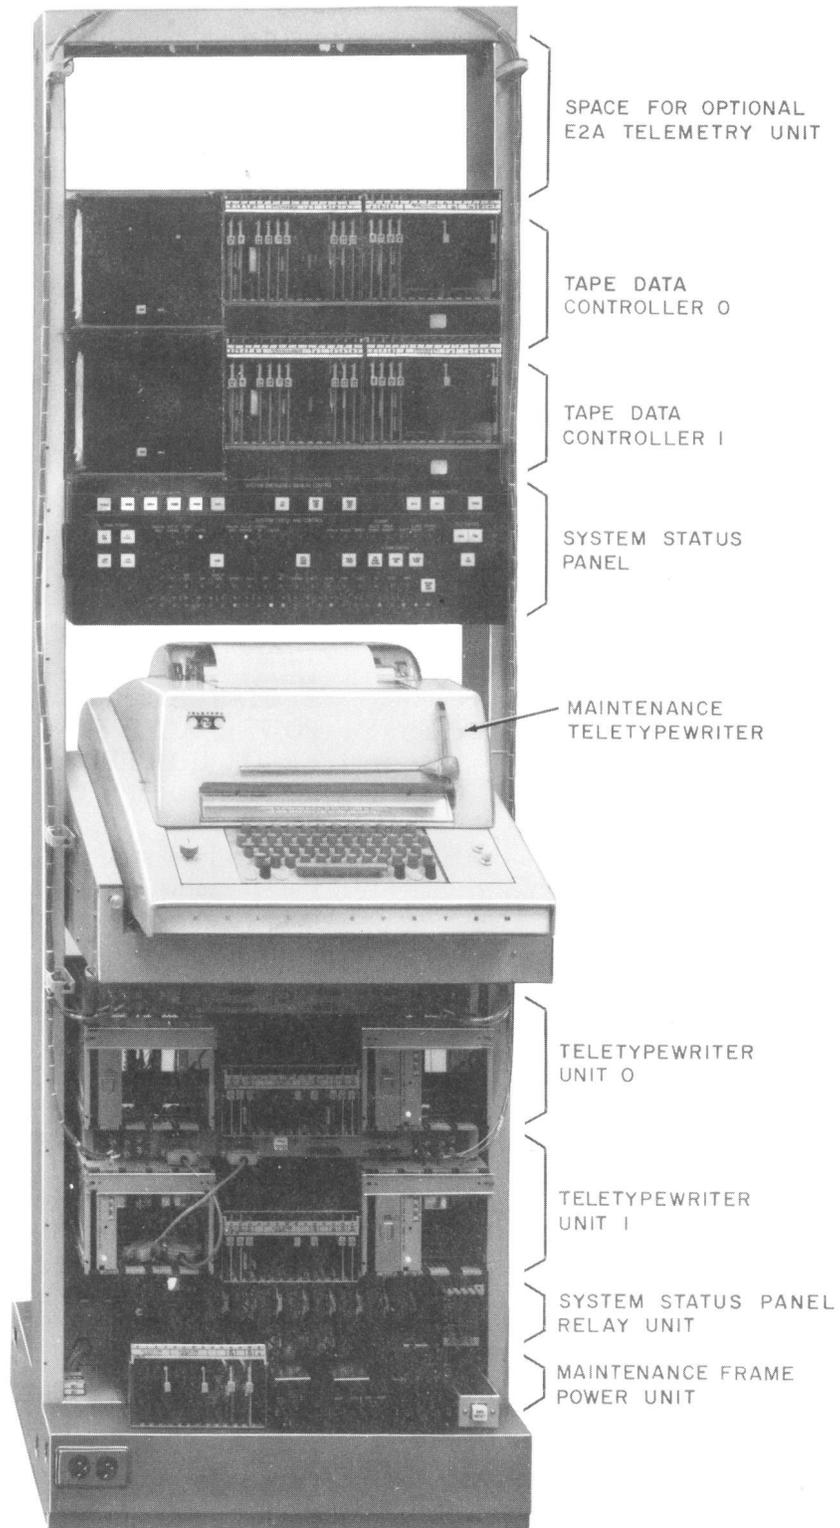

Fig. 2—No. 2B ESS Maintenance Frame
1.04 The system status panel is housed in the upper midsection of the maintenance frame (Fig. 2). The system status panel is hinged to the side brackets of the system status panel controller and a magnetic latch on the panel keeps it securely closed.